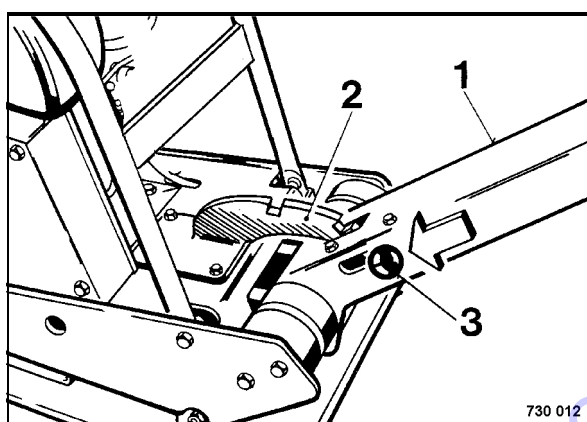

Fig. 5
- Push locking lever 3 (Fig. 5) in direction of arrow and fold the rod down, so that steering rod (1) can swing freely.